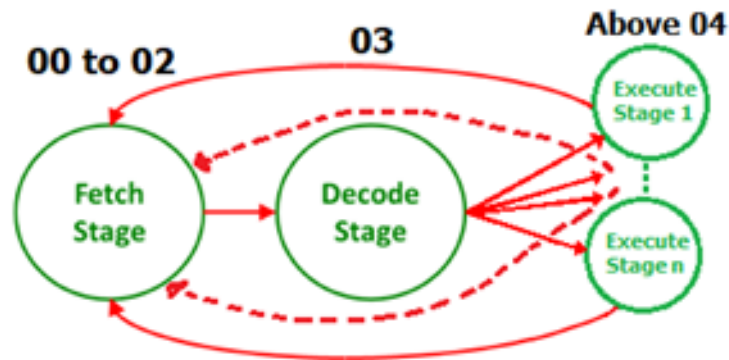

Figure 1 Same fetch and decode states for all instructions, but different execution path for different instruction form
3. All instructions use the same fetch and decode states, but the first execution state for each instruction is selected by the Decode ROM (Figure 1). Using the new instruction’s opcode as the